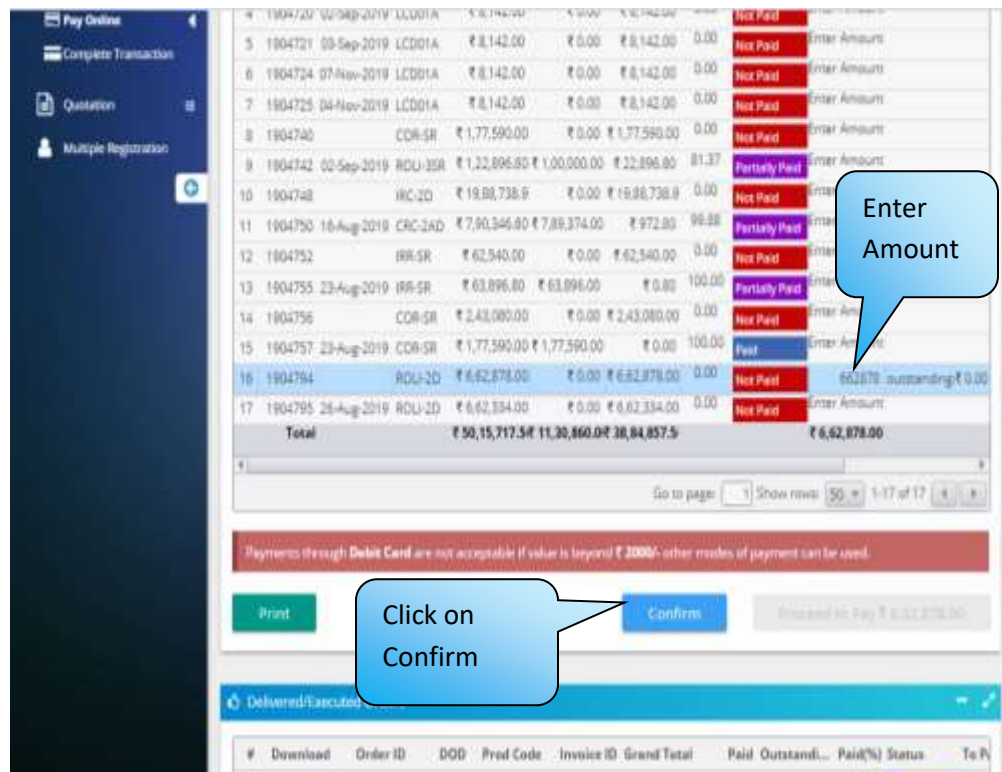

Fig. 16
Step 6: Select the bank to pay amount. After that you can see the message that “payment of Order ID 1904794 is done successfully” (Refer Fig.16,17,18)